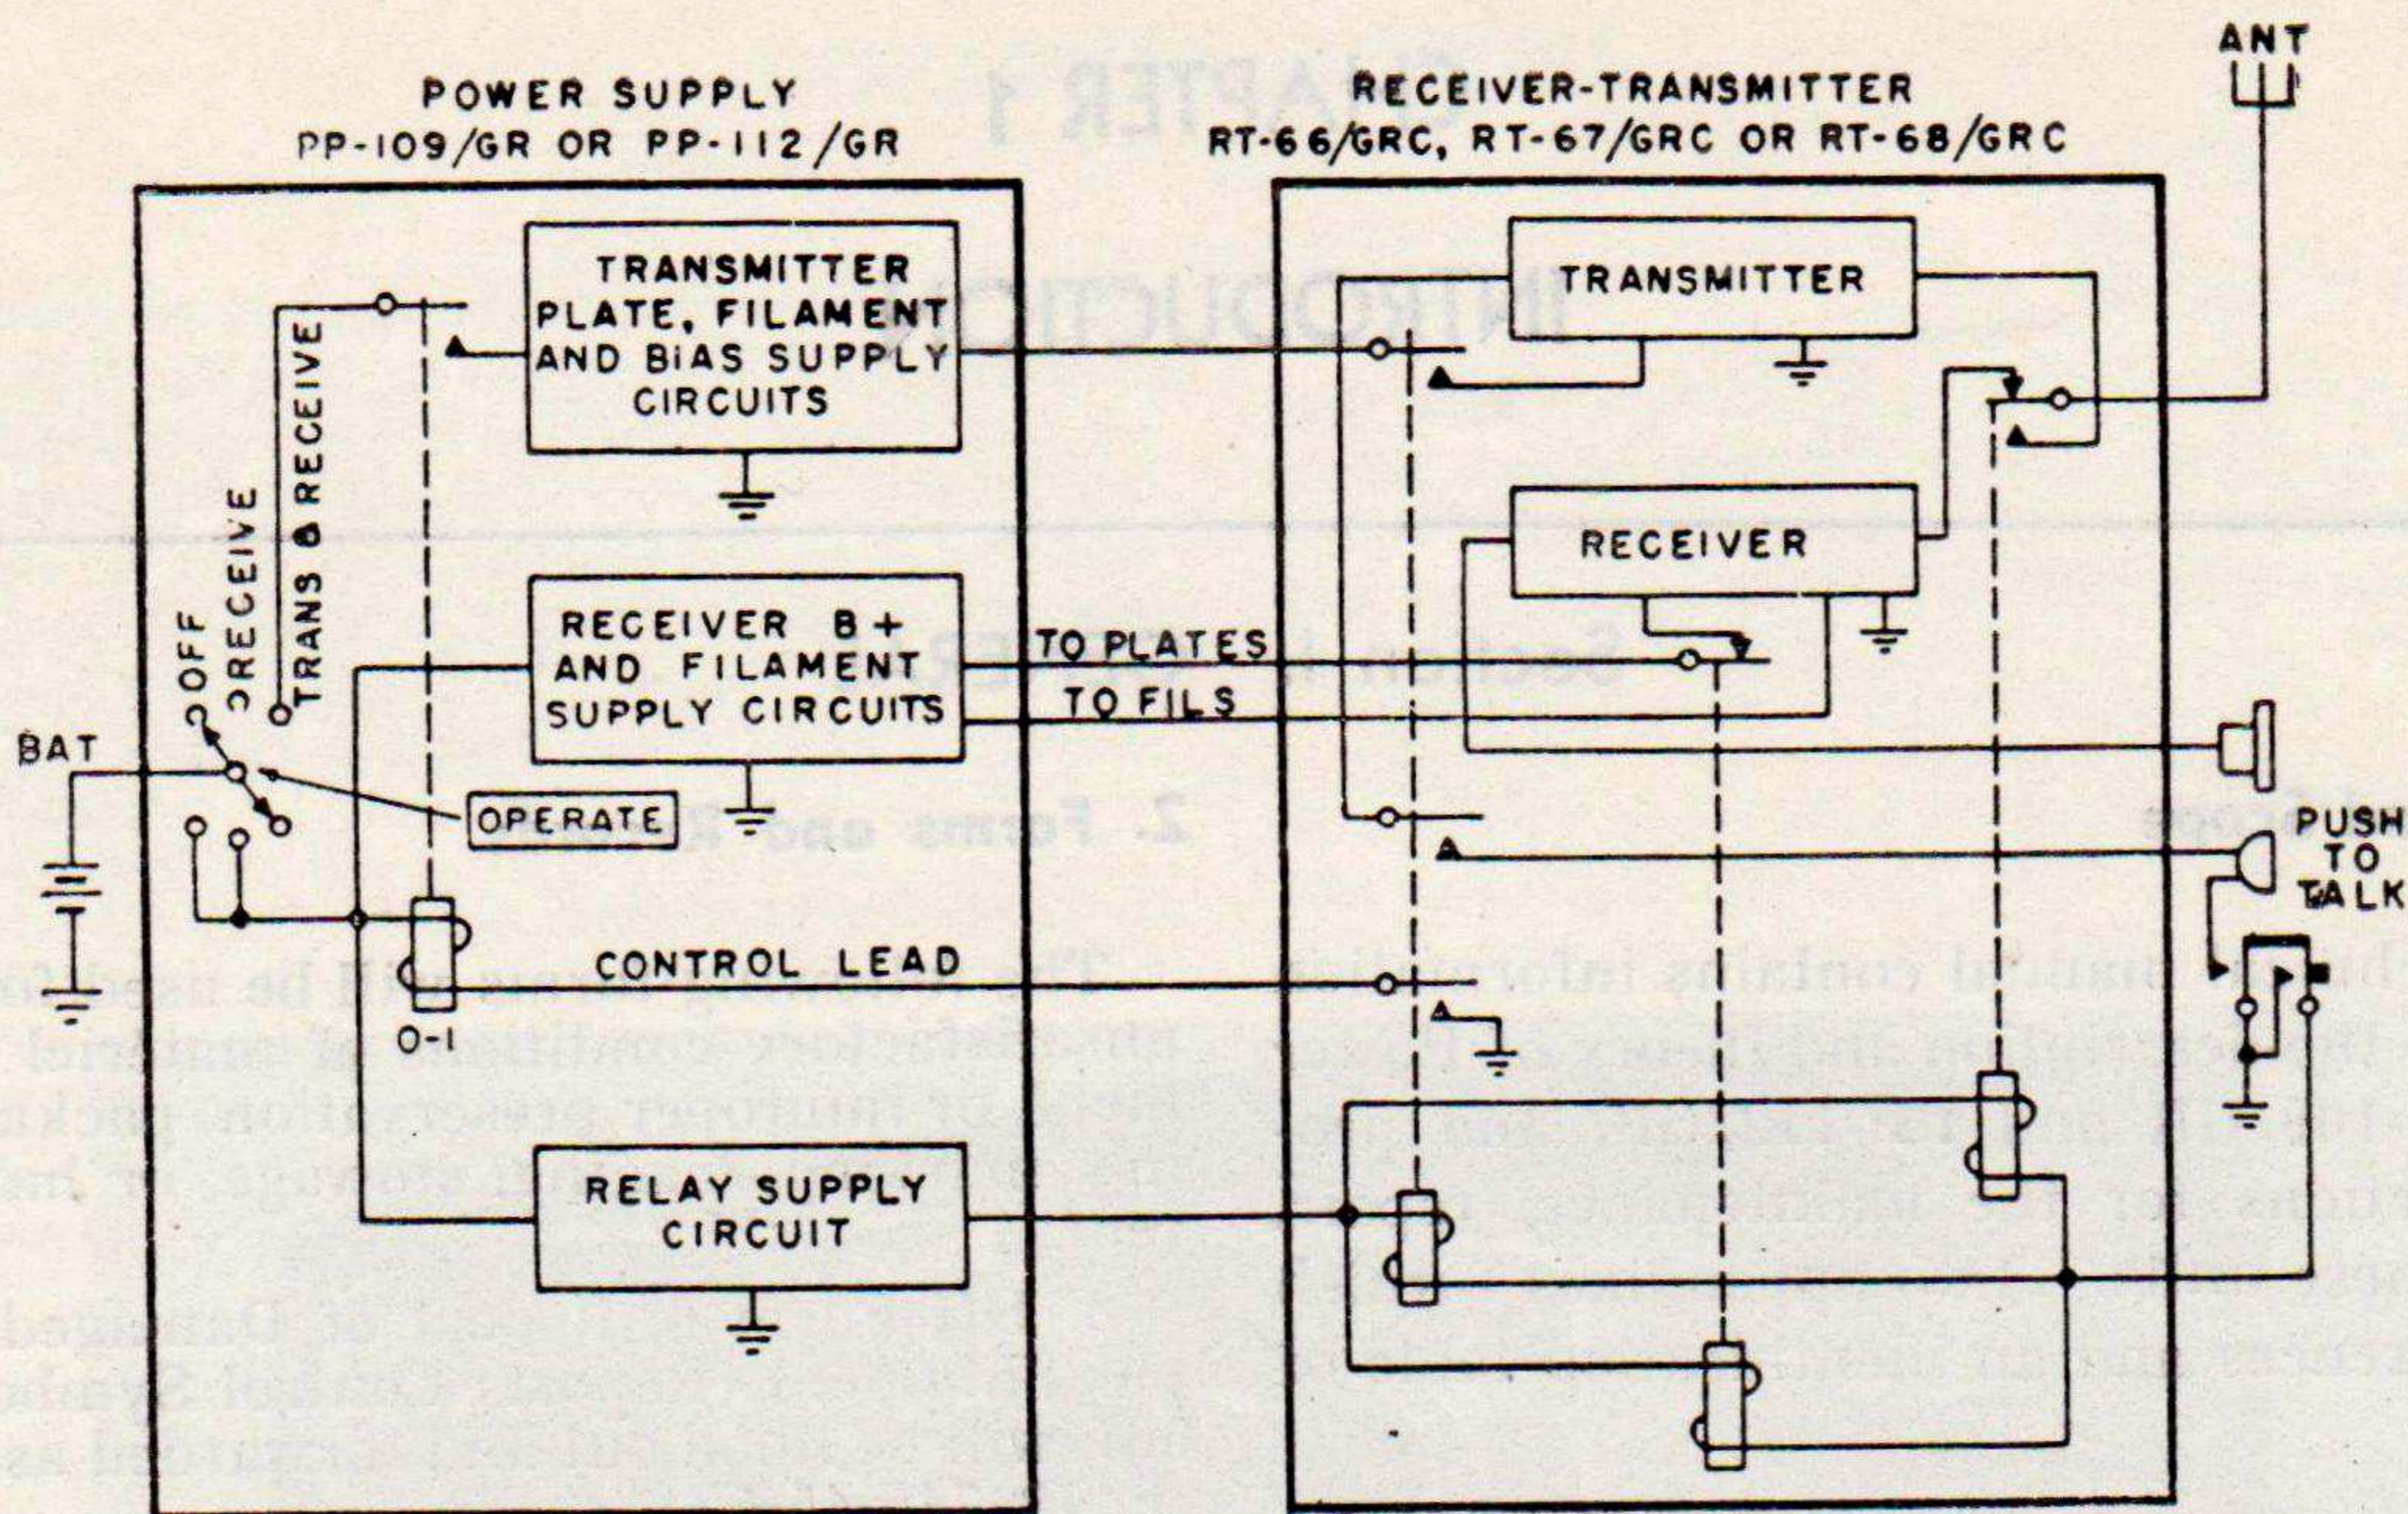

Figure 2. Power Supply PP-112/GR or PP-109/GR, system application, simplified diagram.
a. Power Supply PP-109/GR or PP-112/GR is used in conjunction with Receiver-Transmitter RT-66/GRC, RT-67/GRC, or RT-68/GRC in any storage battery installation. Figure 2 is a simplified block diagram of a system in which the power supply is used to provide the necessary operating potentials.
another switch on the operator's microphone or control board. When the OPERATE switch is in the TRANS & RECEIVE position, and the external control is activated, first the receiver-transmitter relays are energized and then the transmitter power supply relay is energized. This causes transmitter plate and filament voltages to become available (fig. 2). The operation of the power supply in any system is described in the technical literature for the particular system. Details for the operation of the controls for the power supply are given in chapter 2.